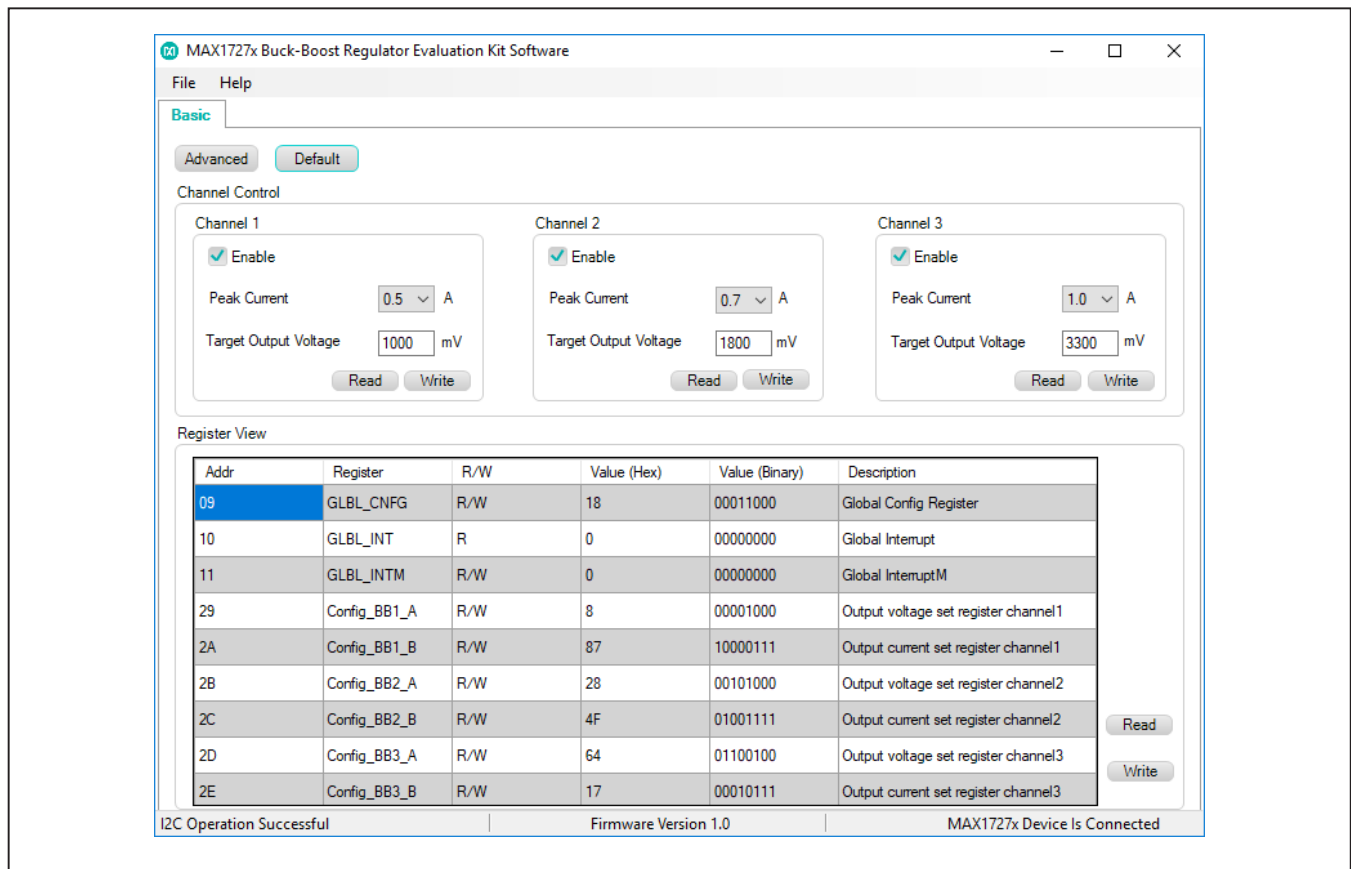
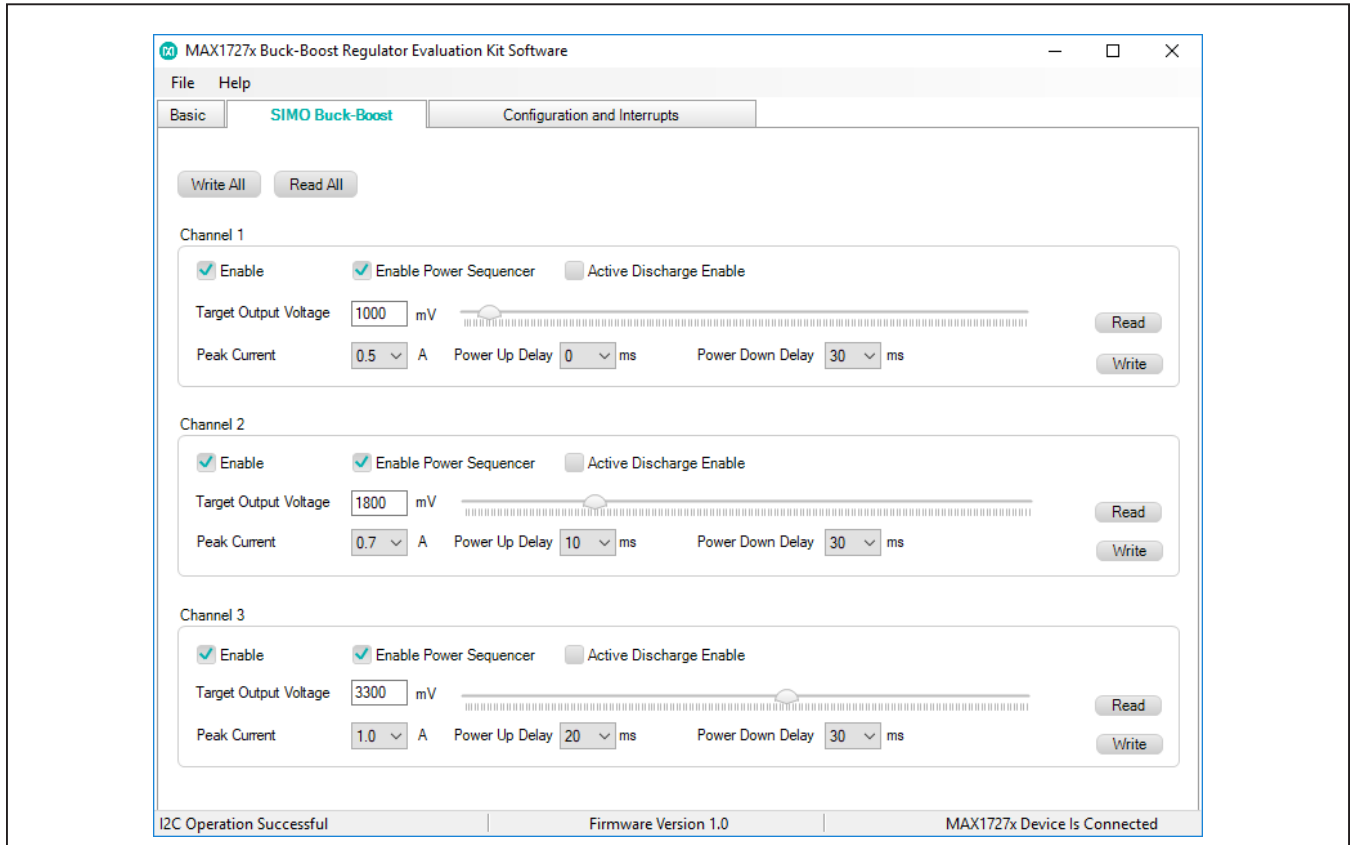
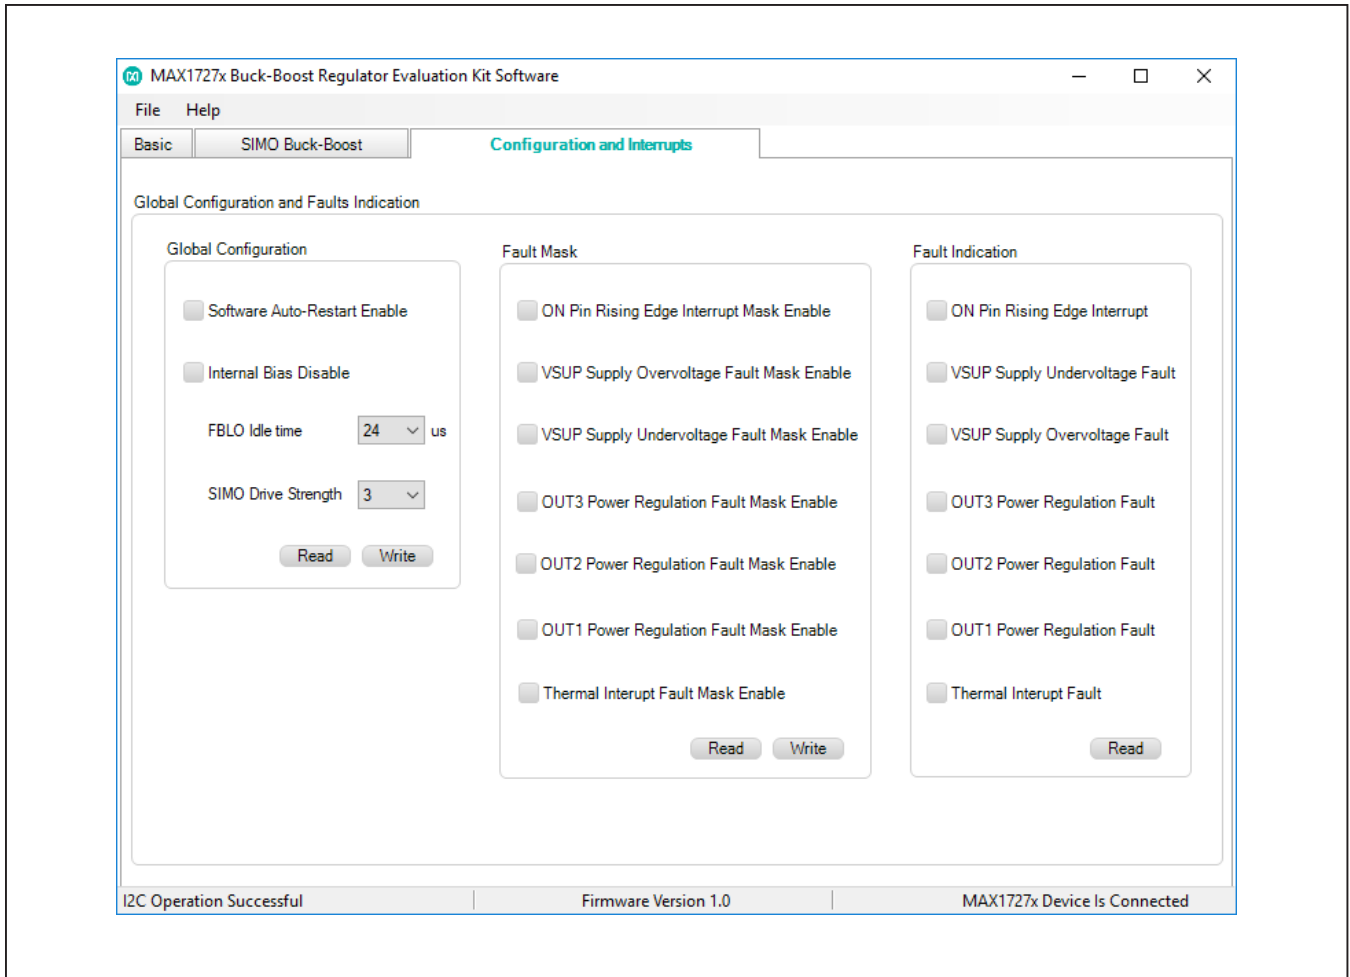

Figure 1. MAX17271 Evaluation Kit Software Default (and Advance) Mode, Basic Panel Window
Figure 2. MAX17271 Evaluation Kit Software Advance Mode, SIMO Buck-Boost Panel Window
Figure 3. MAX17271 Evaluation Kit Software Advance Mode, Configuration, and Interrupts Panel Window
- 6) Open the EV kit GUI, MAX17271EVKit.exe and select **File**→**Connect**. See Figure 1.
- 18) Open the EV kit GUI, MAX17271EVKit.exe and select **File**→**Connect**. See Figure 1.
The MAX17271 EV kit software GUI shown in Figure 1 provides a convenient means to control the MAX17271. The MAX17271 EV Kit software features two operation modes: Default and Advanced modes. The Default mode provides only one control panel, the Basic panel (Figure 1). While the Advanced mode provides three control panels, the Basic, the SIMO Buck-Boost, and the Configuration and Interrupts panels (Figure 2 and Figure 3).